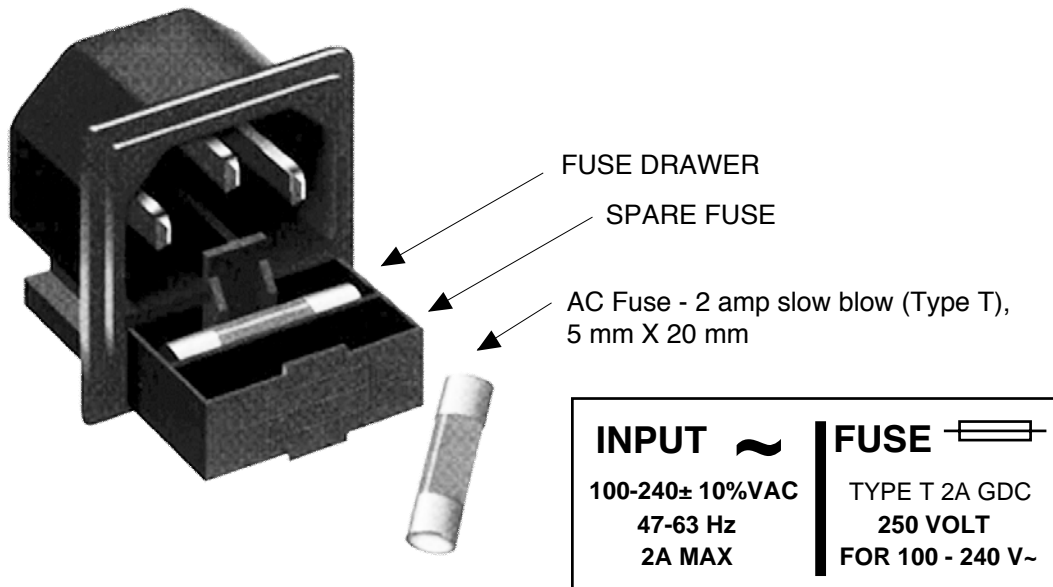

FIGURE 2.3 Fuse Location and Spare Fuse
5. AC Fuse - The fuse is a 5 mm X 20 mm, 2 amp slow blow (Type T) and is inserted in the far slot in the drawer below the AC input as shown in Figure 2.3. There is a spare fuse in the near slot.